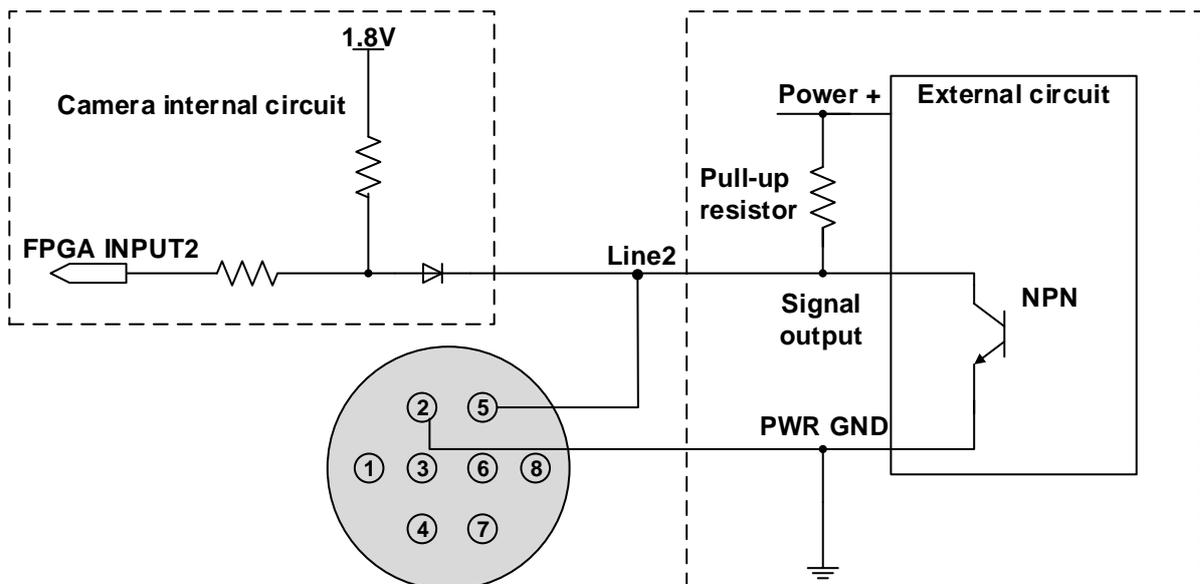
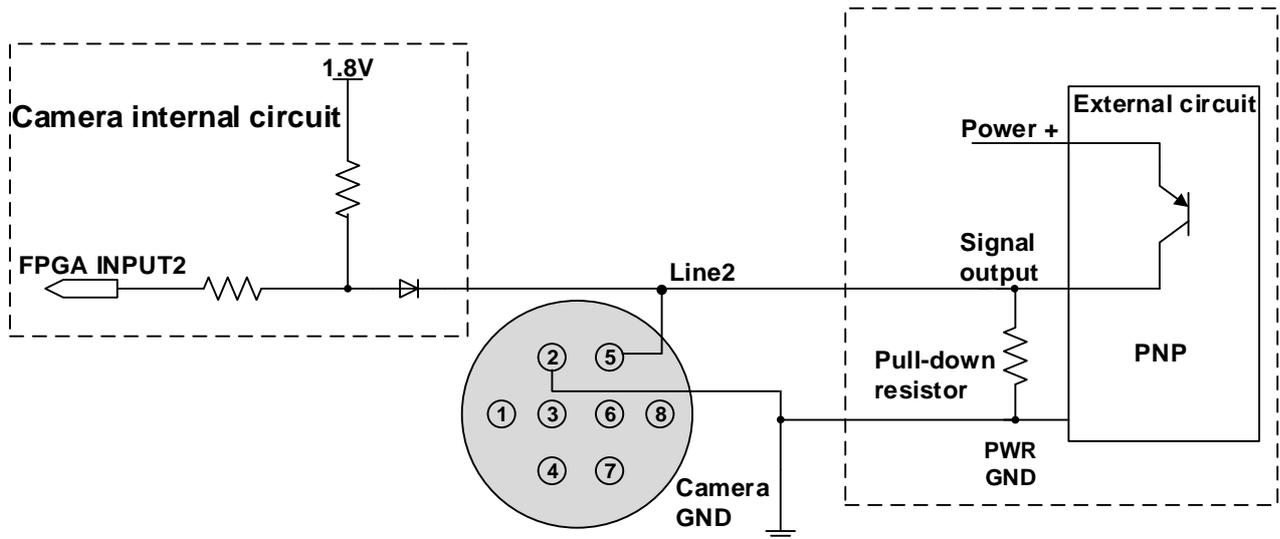

Figure 7-18 NPN photoelectric sensor connected to Line2 input circuit
Figure 7-19 PNP photoelectric sensor connected to Line2 input circuit
- When input of Line2 is high, input current is lower than 100μA. When input of Line2 is low, input current is lower than -1mA. When Line2 is configured as input. The connection method between them and NPN and PNP photoelectric sensors is shown in Figure 7-18 and Figure 7-19. The relationship between the pull-up resistor value and the external input voltage is shown in Table 7-3